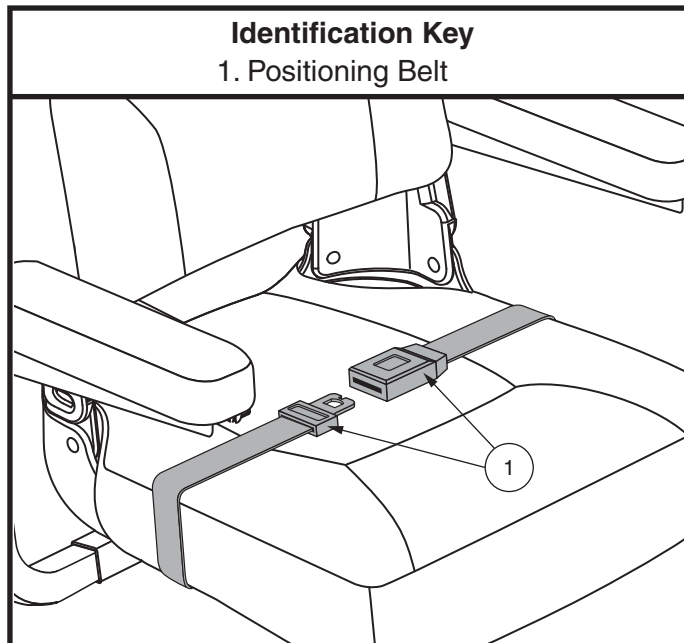

Figure 13. Positioning Belt Adjustment
Your Go-Chair may be equipped with a positioning belt that can be adjusted for operator comfort. **See figure 13.** The positioning belt is designed to support the operator so that he/she does not slide down or forward in the seat. The positioning belt is not designed for use as a restraining device.
1. Once seated, insert the metal tab on one side of the belt into the plastic housing on the opposite side until you hear a click. **See figure 13.**